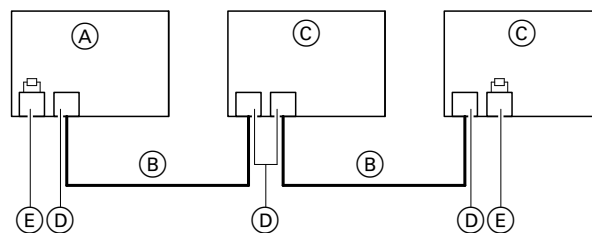

Fig. 48
- The appliance CAN bus is designed for "line" bus topology with a terminator at both ends: See Fig. 48.